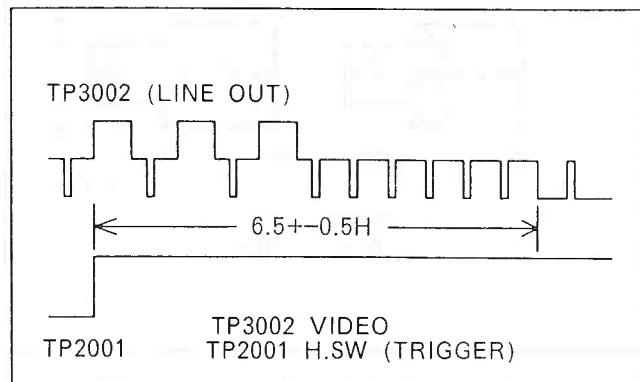

Fig. E3
3. Adjust VR2001 so that the phase difference becomes 6.5+-0.5 (H) as shown in Fig.E3.